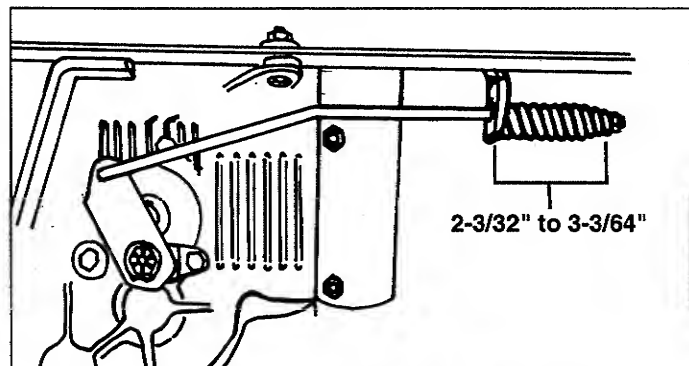

Figure 29. Brake Adjustment - Hydro Models
2. See figure 29. The brake rod spring should measure 3" ( $2\frac{3}{32}''$  to  $3\frac{3}{64}''$ ) when compressed. Turn the adjustment nut to achieve correct spring length.